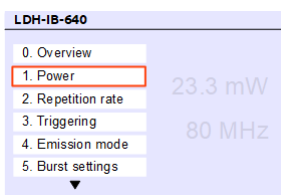

Fig. 14: The local interface main menu.
The local interface for the Taiko PDL M1 is menu based and uses a single push dial for navigation and setting of parameters. The main menu (see Fig. 14) is accessed by simply pressing once on the push dial (D).